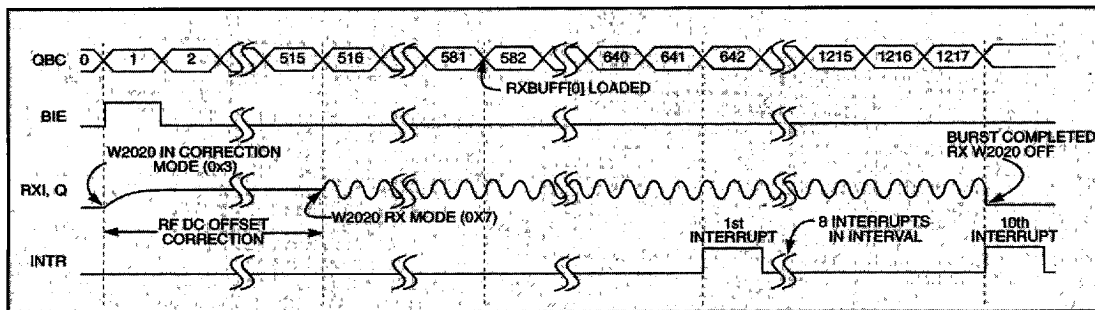

Figure 10. Baseband Input Timing Diagram
A timing diagram for the receive channel is shown in Figure 10. It illustrates the timing for a 148 (160) bit burst. RF dc offset correction is performed for the first 130 symbol times.